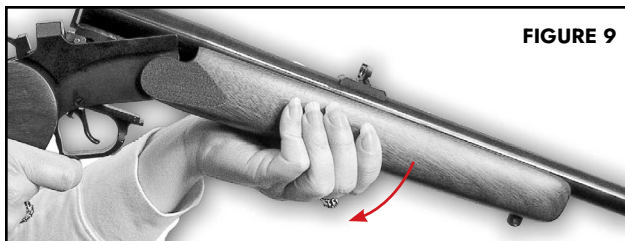

FIGURE 9
- With your finger away from the trigger and with the hammer in the “AT REST” position (FIGURE 8), open the action by pulling up and back on the trigger guard spur (FIGURE 9).